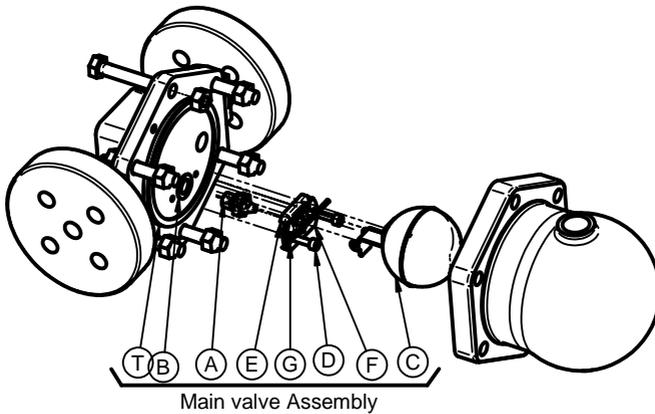

Figure 5: Parts available as spares for FMLDT53
1. Unscrew cover bolts (2) and lift off the cover (5).
2. Dismantle the pivot pin and remove the ball float (9).
3. Unscrew the assembly set screws (8), and dismantle the pivot frame (11).
4. Remove the valve seat (6) along with the valve seat gasket (7).
5. Replace the main valve assembly (A, B, C, D, E, F, G, & T as shown in fig.5) with a new one.
6. Fit support frame and pivot frame (11) by using two set screws (8) but do not tighten full.
8. Now tighten the set screws (8).
9. Refit the cover (5) by using the cover bolts (2).
**9.** Available Spares: (Refer Fig.5)